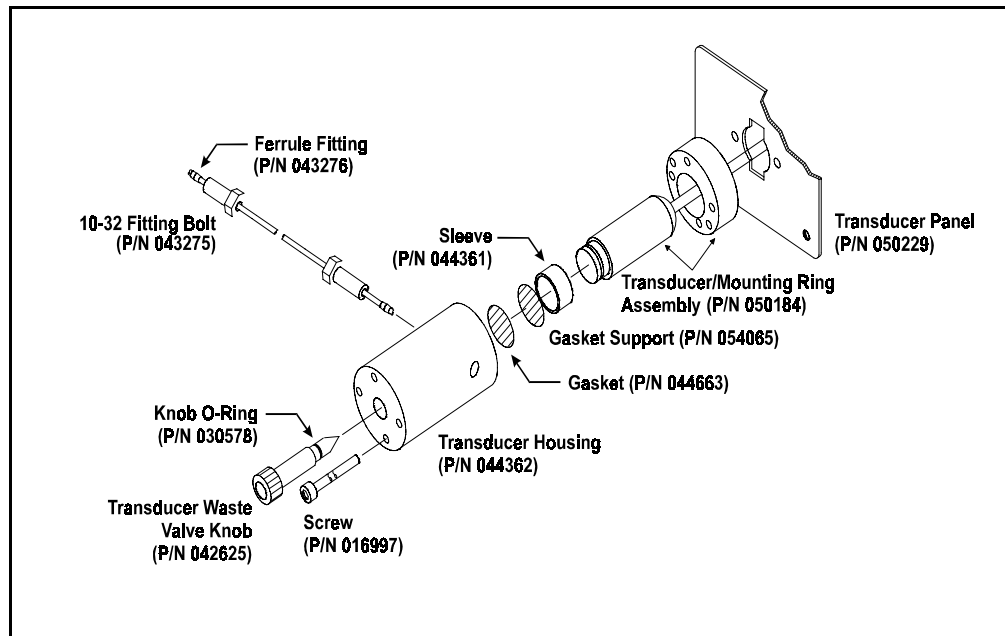

Figure 5-4. Pressure Transducer Assembly
2. Remove the valve from the pressure transducer housing by turning the knob counterclockwise until it comes loose from the housing (see Figure 5-4).